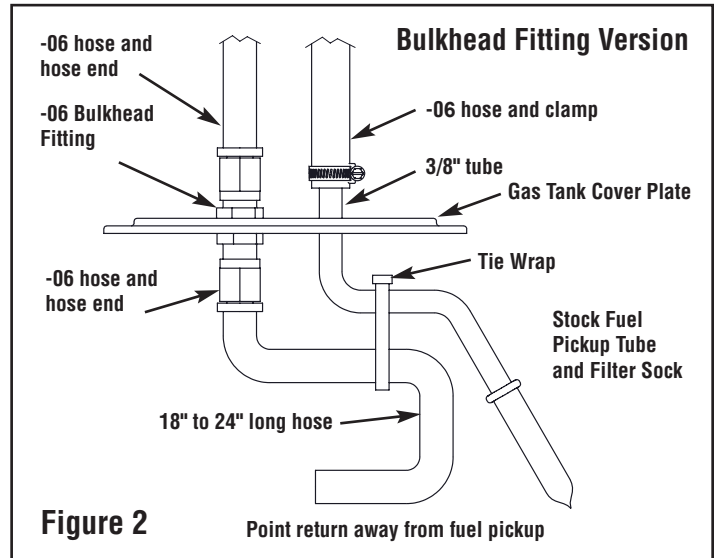

Figure 2
- A1. Weld in a 5/16" hard line inlet onto the sending unit cover plate (see Figure 2), or...